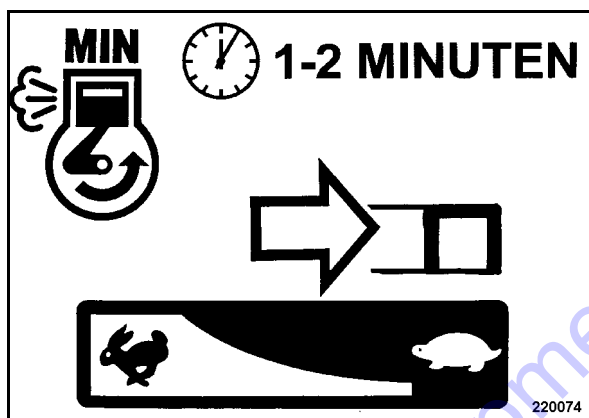

Fig. 18
- Move the throttle lever (Fig. 18) back to idle speed position.